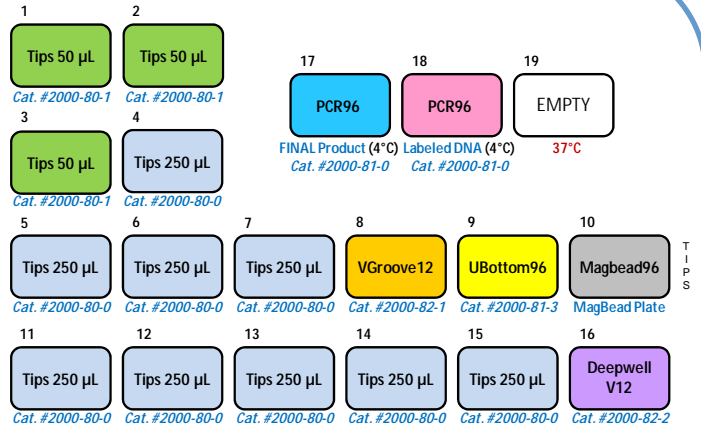

Figure 7. Deck layout for magnetic bead purification of 96 samples.
1. Ensure that all labware is placed on the correct positions on the ArrayPrep® instrument (see Figure 7).